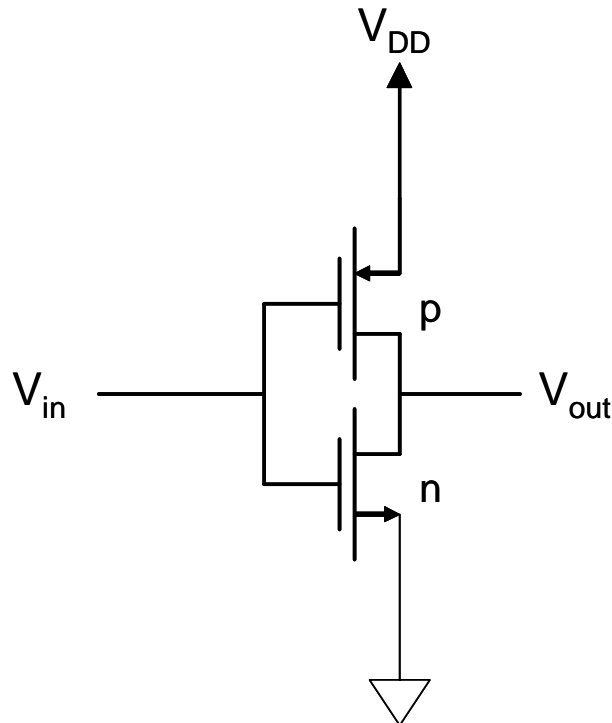

Figure 4: The CMOS inverter
The logic inverter in Figure 2 has one major flaw. The power dissipation is too high when the output is low. This would not be a practical logic gate in a modern integrated circuit because a large number of these gates would use a huge amount of power. The CMOS logic family significantly reduces power dissipation by replacing the drain resistance (R_D) with a p-channel MOSFET as shown in Figure 4.
j) Build the CMOS inverter shown in Figure 4. Here, use output 1 from the Power Supply for $V_{dd} = 10V$, and output 2 for V_{in} .
m) Using an Ammeter, determine the total power dissipation of this inverter when $V_{in} = 0$ and when $V_{in} = 10V$. Assume that the two inverters (Figure 2 and Figure 4) are in the high state 50% of the time and in the low state 50% of the time for many logic applications. **Compare the average power dissipation of the two inverters, and describe the benefit of CMOS logic.**